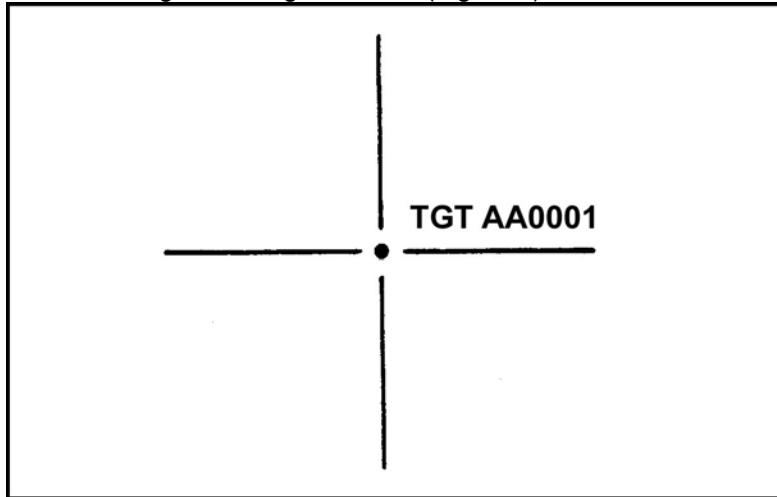

Figure 4. Last plot, target number AA0001.
- c. The FO sends, "Add (drop) 25, fire for effect, end of mission." The computer plots this correction and determines the data, erasing all but the last plot from the board. The last plot marks the TGT and is given a target number (Figure 4).